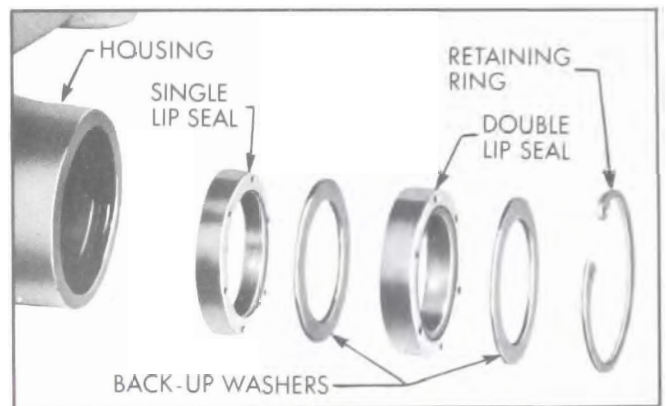
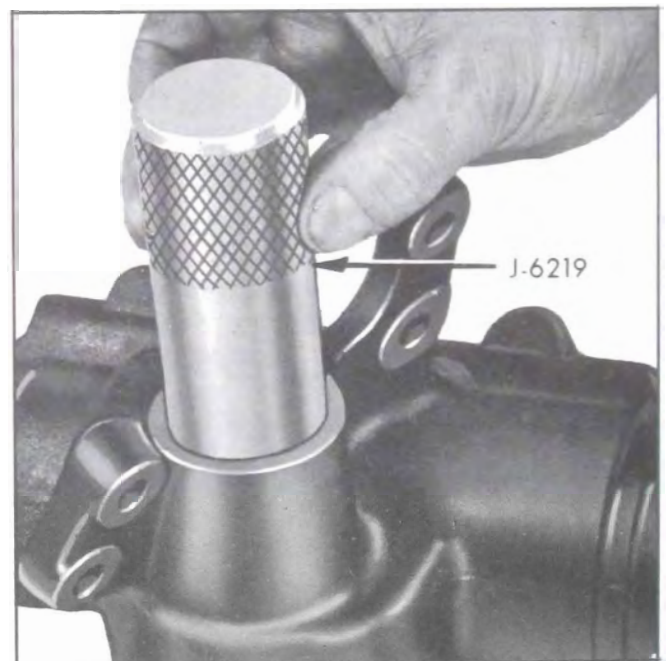

Figure 8-59—Pitman Shaft Seals
Figure 8-60—Installing Pitman Shaft Seals
2. Lubricate new pitman shaft seals in automatic transmission oil. Install the inner, single lip seal in bore first, then a back-up washer. See Figure 8-59. Using Tool J-6219, drive the seal and washer in far enough to provide clearance for the outer seal, back-up washer and retaining ring. See Figure 8-60. The inner seal must not bottom on the counter bore.